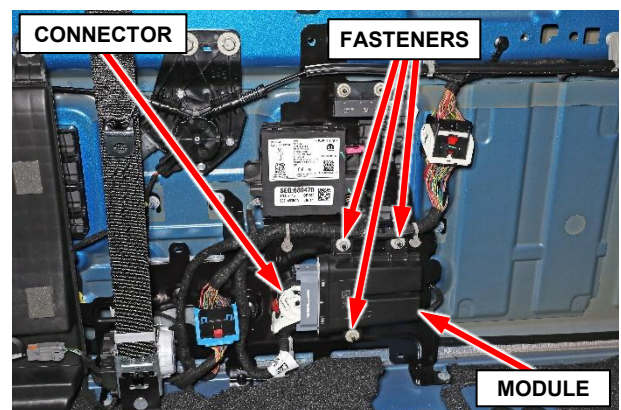

Figure 4 – Trailer Tow Module
5. Disconnect the wire harness connector from the trailer tow module (Figure 4).
6. Remove the three fastener nuts securing the trailer tow module to the rear cab back panel (Figure 4).
7. Remove the trailer tow module from the vehicle (Figure 4).
10. Install the **NEW** trailer tow module to the vehicle and tighten the three fastener nuts securely (Figure 4).
11. Connect the wire harness connector to the trailer tow module (Figure 4).